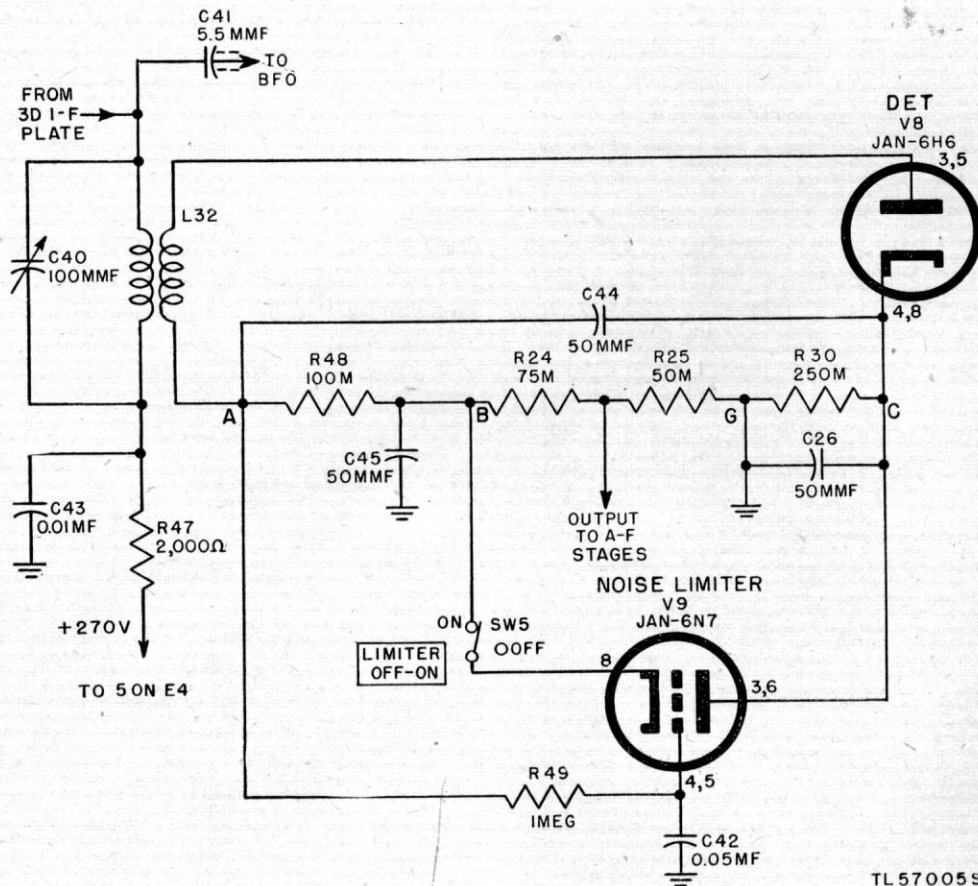

Figure 30. Radio Receiver BC-779-B, functional diagram of detector and noise limiter stages.
through 10,000-ohm resistor R22 and L31. Capacitor C20B (0.05 mf) bypasses the low-potential end of L31 to ground, but prevents the bias voltage from being shorted to ground. Screen voltage is applied through 50,000-ohm series dropping resistor R23; the screen is bypassed by 0.05-mf capacitor C20C. Plate voltage is applied through 2,000-ohm decoupling resistor R47 (fig. 30) and the primary winding of L32. The primary of L32 is tuned by 100-mmF capacitor C40. The 0.01-mf capacitor C43 bypasses h-f components to ground.
63. Detector (fig. 30)
64. Noise Limiter (fig. 30)
a. LIMITER CIRCUIT. The triode sections of Tube JAN-6N7 (V9) are connected in parallel to form a single triode (fig. 30) which is used as a shunt-type limiter. The heater voltage is reduced to approximately 3 volts by 4-ohm series resistor R31 (fig. 56). The control grids (pins 4 and 5) are connected to 0.05-mf capacitor C42, which is grounded at one end, and through 1-megohm (meg) resistor R49 to the most negative point (A) on the diode resistance. The cathode (pin 8) is connected through LIMITER OFF-ON switch SW5 to a point of higher potential (B) with respect to point (A), and the plates (pins 3 and 6) are connected to the point of highest potential (C)
b. The r-f voltage across R34, approximately 465 kc, is applied through capacitor C41 to the input circuit C40-L32 of detector stage V8 (fig. 30). This r-f voltage mixes in the detector with the 465-kc i-f signal from the 3d i-f tube, V7, resulting in a beat or difference frequency which is applied to the a-f stages of the receiver. By adjusting the BEAT OSCILLATOR control, C47, the pitch of this difference frequency can be controlled at will. Furthermore, the BEAT OSCILLATOR control may be set to obtain the desired difference frequency tone above or below the intermediate frequency, depending on the side which gives the more satisfactory reception. In addition to being necessary for proper reception of c-w code signals, the bfo is useful for locating weak signals of any kind. As indicated in paragraph 65e, capacitor C17 is connected in parallel with the a-v-c time constant determining capacitors C56 and C18 during a-v-c reception to increase the time constant when the bfo is being used for c-w code signals. When the SIGNAL MOD-CW switch, SW3, is in the MOD position, the bfo does not operate since the plate and screen supply is cut off. In this position the additional timing capacitor, C17, is disconnected from the a-v-c line, since it is required only for a-v-c c-w code reception.